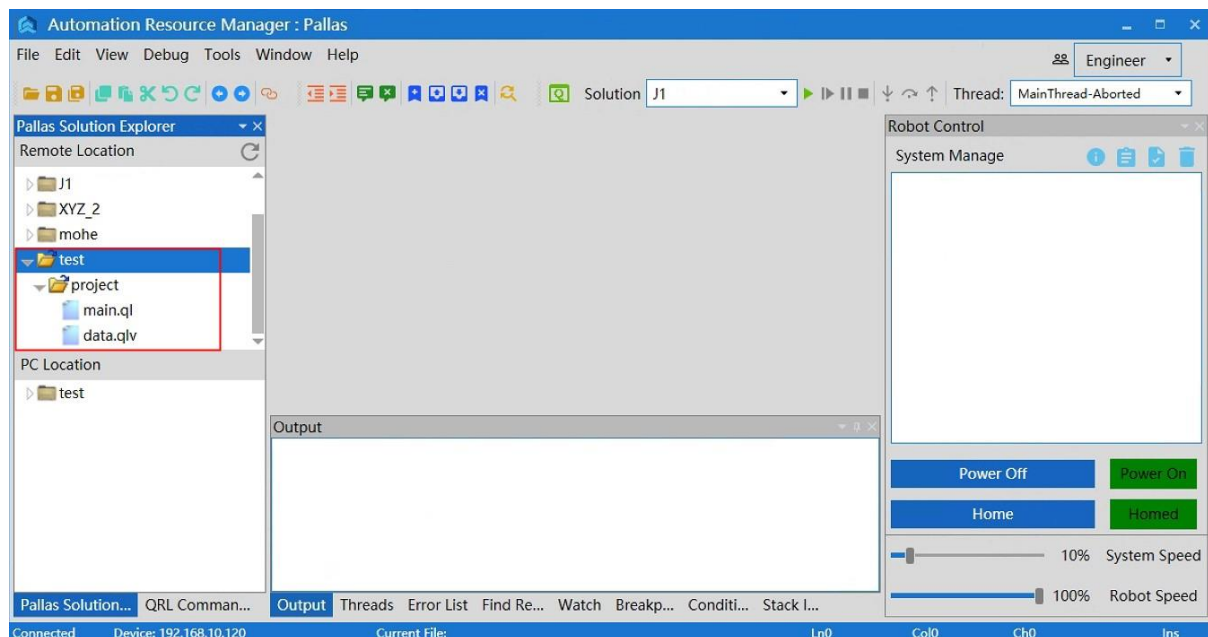

Figure 6-29 "New Solution" file interface
**Step 3** After the creation is completed, the corresponding solution file will appear below "Remote Location". Expand the "test" file, and then the "project" file, which contains the "main.ql" and "data.qlv" program files, as shown in Figure 6-29.